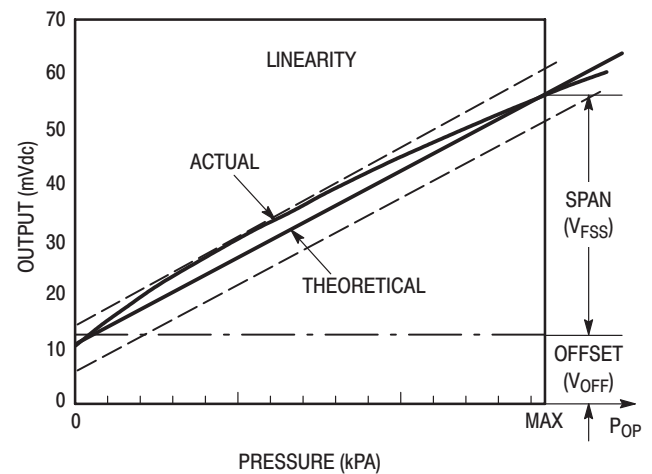

Figure 3. Linearity Specification Comparison
Linearity refers to how well a transducer's output follows the equation: $V_{\text{out}} = V_{\text{off}} + \text{sensitivity} \times P$ over the operating pressure range (see Figure 3). There are two basic methods for calculating nonlinearity: (1) end point straight line fit or (2) a least squares best line fit. While a least squares fit gives the "best case" linearity error (lower numerical value), the calculations required are burdensome.